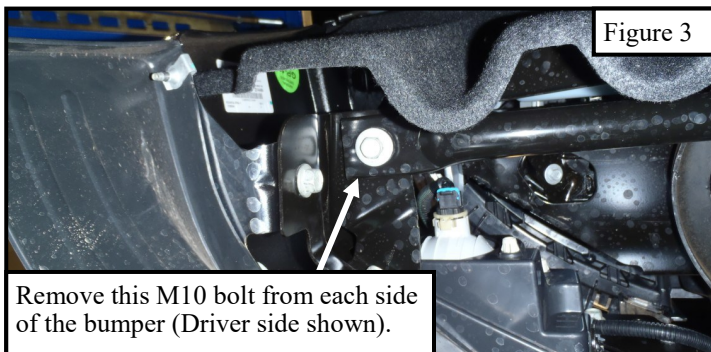

Figure 3
4. Remove the front bumper assembly. (This is only necessary on vehicles with factory tow hooks.) See Figures 3 and 4.